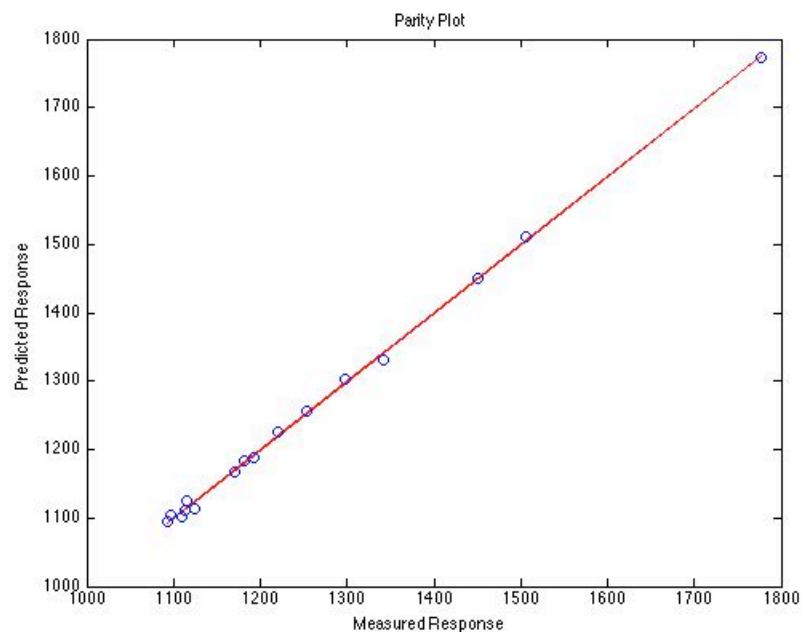
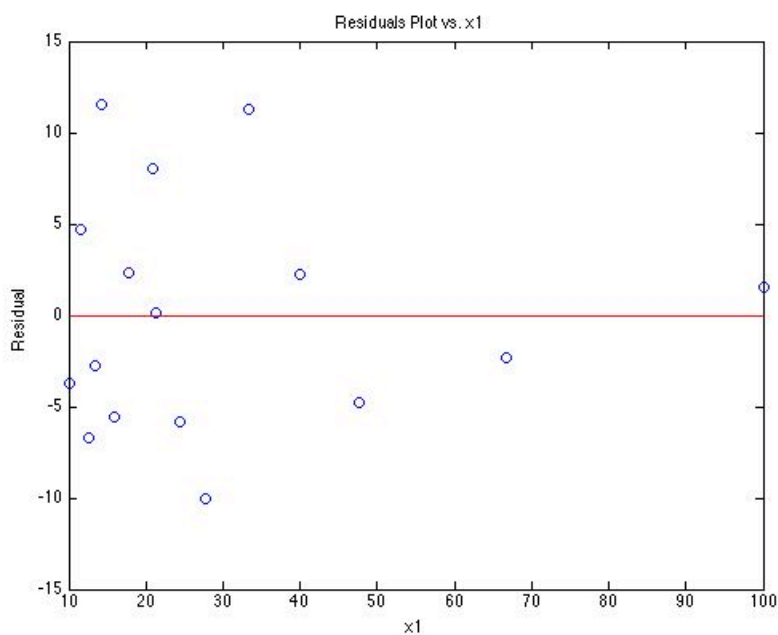

Figure 1. Parity plot comparing the experimental value of y to the value predicted by the fitted model.
Figure 2. Residuals plot showing the difference between the experimental and model-predicted values of y as a function of x_1 .
In this particular problem, the model, equation (4), has two independent variables, x_1 and x_2 , as well as a y-intercept, b . Each row in Table 1 represents one data point. For each of these data points, values of x_1 , x_2 and y can be calculated using the values of C_S , C_I and r_P for that data point and equations (5), (6) and (7). When this information and input data are provided to whichever linear least squares fitting tool one chooses to employ, the resulting output shows that the correlation coefficient, r^2 , is equal to 0.999, the best value of the slope, m_1 , is equal to 0.67 ± 0.16 min, the best value of the slope, m_2 , is equal to 166 ± 3 min M⁻¹ and the best value of the y-intercept, b , is equal to 1084 ± 7 min M⁻¹. (Here the uncertainties are the 95% confidence limits, other least squares fitting tools might provide different measures of the uncertainties in the fitted parameter values.) In most cases, a parity plot like that shown in Figure 1 and residuals plots like those shown in Figures 2 and 3 are also provided, but if such plots are not provided, they can be generated easily.
Before the best values for m_1 , m_2 and b can be accepted, one must decide whether the final model is sufficiently accurate. In this case, the accuracy of the model can be assessed using the correlation coefficient, the parity plot and the residuals plots. The closer the correlation coefficient is to a value of 1.0, the better the fit of the model to the data. In this case, the correlation coefficient of 0.999 indicates a very good fit. Additionally, if the fit is accurate, then the deviation of the data points in the parity plot from the diagonal line should be small. This can be seen to be the case for this problem by examination of Figure 1. Finally, if the fit is accurate, the residuals should scatter randomly about zero in the residuals plots; there should not be any apparent trends in the scatter of the data about the line in the figures. Examination of Figures 2 and 3 shows this to be true for the present problem. Thus, the model does appear to offer a sufficiently accurate representation of the experimental data, and the values of the slopes and intercept can be accepted.